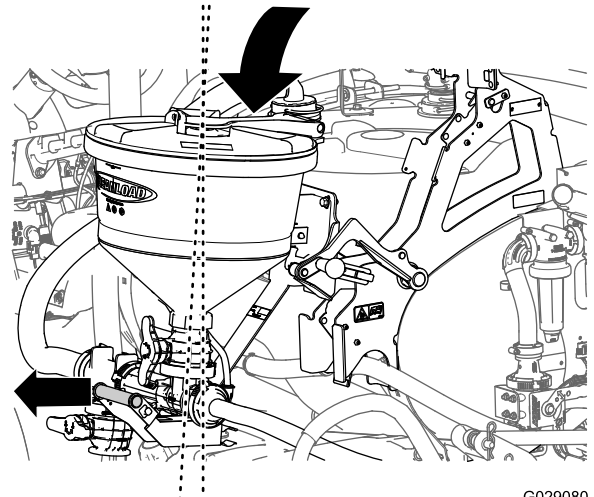

Figure 35 G029080
4. Fully lower the eductor while holding the eductor handle outward slightly (Figure 35).
2. Raise the educator while holding the educator handle outward slightly (Figure 35).